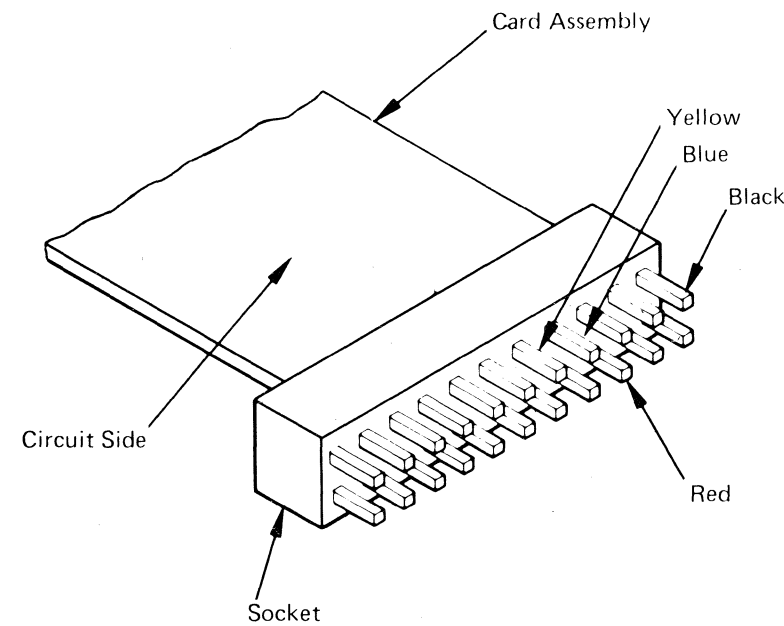

Figure 1.
4. Loosen the top 2 screws of cartridge motor, lift off SMS socket assembly. Remove the four cartridge motor leads noting their location (see Figure 1). Move assembly out of the way.
10. Replace colored motor leads on the back of the SMS card connector (see Figure 1).